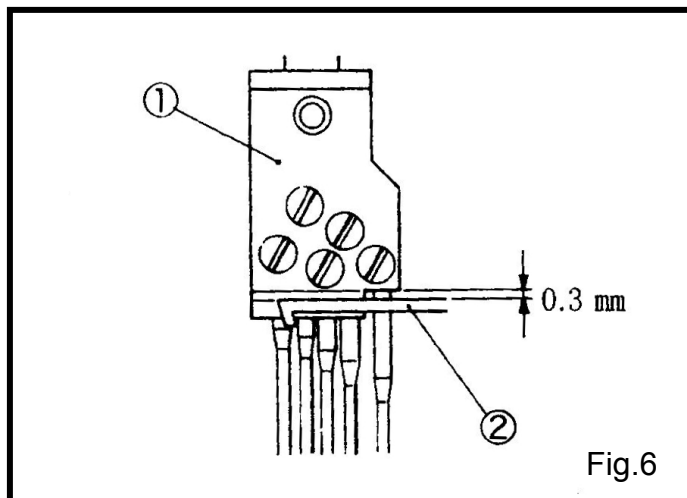

Fig.6
2. 當針柱在最低位置和壓腳完全抬舉時，針錐①和上網線勾②需留間隙 0.3mm。(Fig.6)
2. As standard, make the clearance between the notch of the needle clamp① and the top cover thread hook② to 0.3mm when the needle bar is at the lowest point and the presser foot is raised by pressing the presser foot pedal. (Fig. 6)